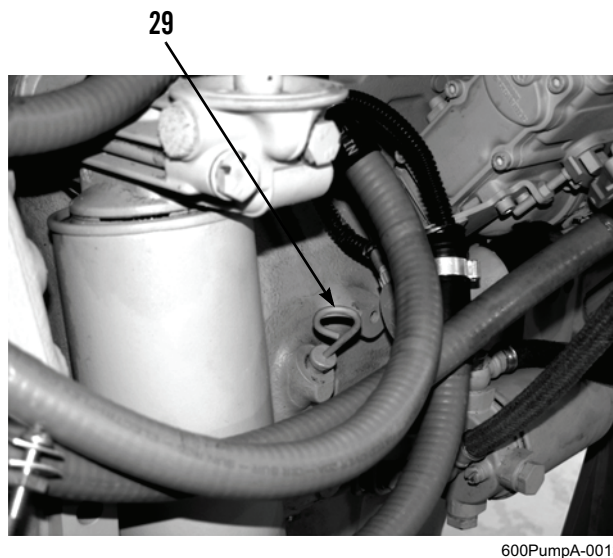

Figure 35. Engine Oil Level Dipstick.
18. Install engine oil level dipstick (Figure 35, Item 29).